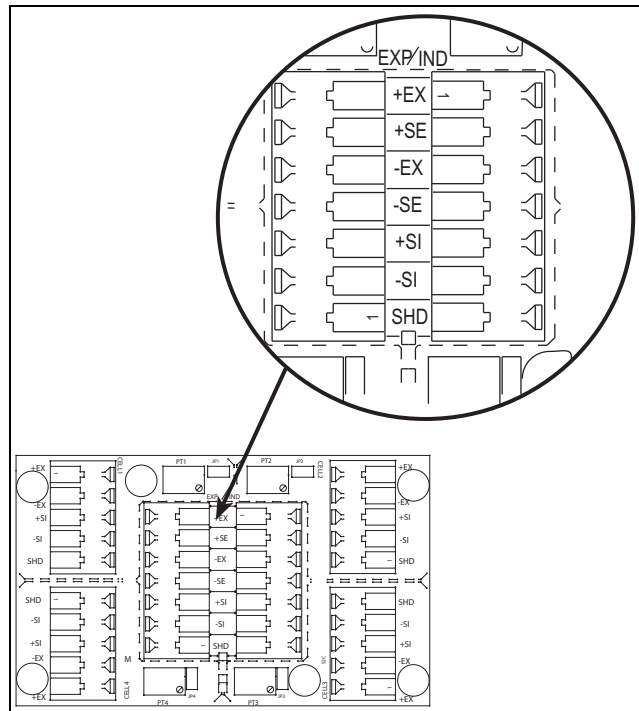

Figure 2-8. Expansion Port Location
4. Use the expansion port on the main board to connect multiple junction boxes in series to accommodate applications having more than four load cells. Figure 2-8 illustrates the expansion port wiring location.